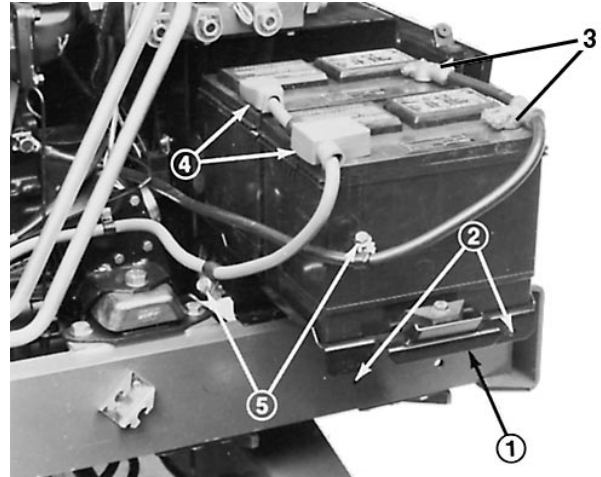

Figure 2
- Remove the capscrews securing the battery tray and slide the tray out (Fig. 2).
- Remove the negative (–) battery cables from the batteries (Fig. 2). Connect a 3- to 4-amp battery charger to the posts. Charge the batteries at a rate of 3 to 4 amperes for 4 to 8 hours.